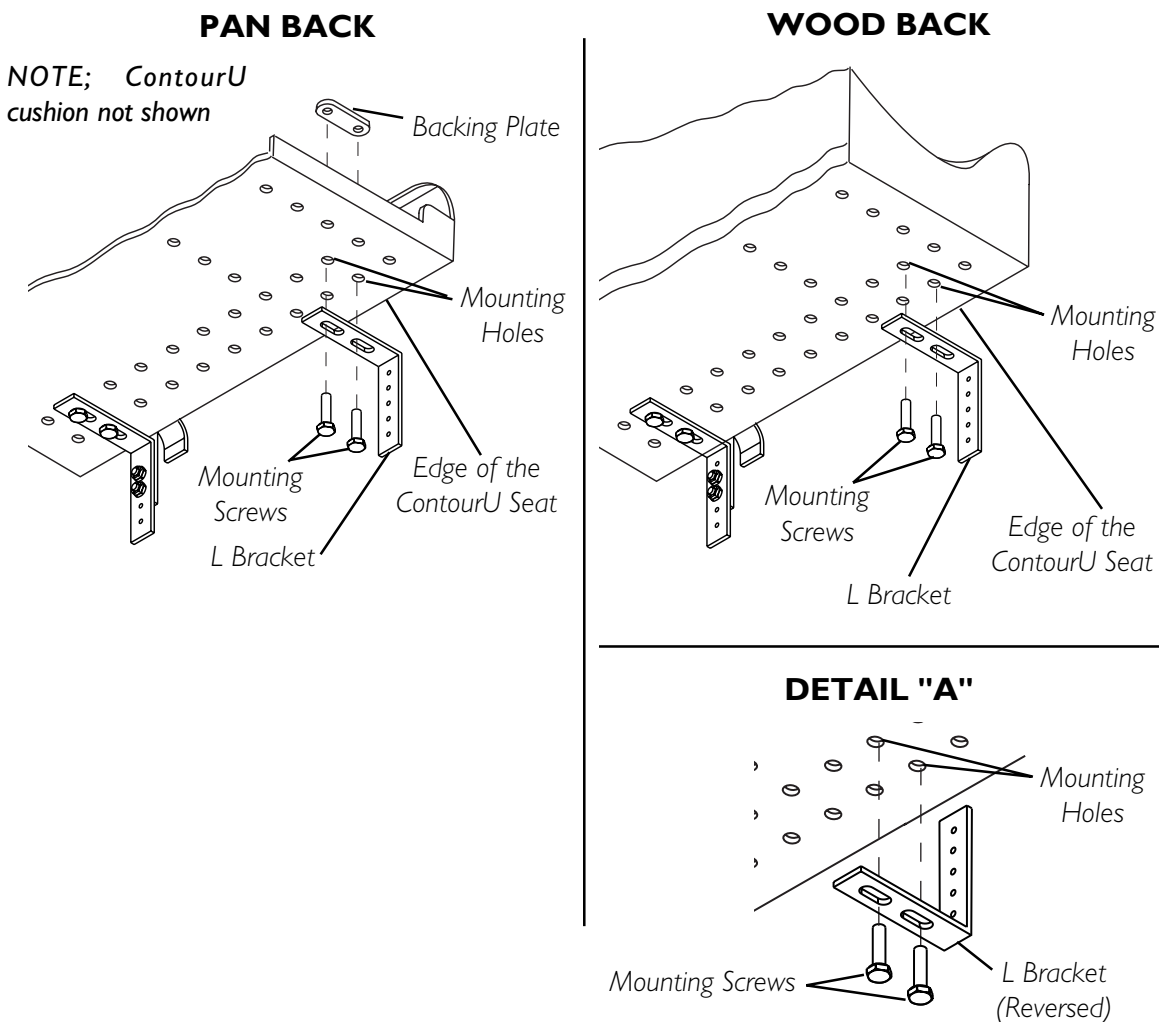

FIGURE 8 - INSTALLING THE SEAT L BRACKETS
INSTALLING THE SEAT L BRACKETS (FIGURE 8)
NOTE: When mounting the L brackets to the wood backed ContourU seat the L brackets may be reversed to allow for a wider range of seat height adjustments and shown in DETAIL "A" of FIGURE 8.
1. Position the ContourU seat between the seat rails and determine the mounting positions for the four (4) L brackets and seat depth.
3. Align L bracket with the edge of the ContourU seat and two (2) desired mounting holes as shown in FIGURE 8.
4. Perform one (1) of the following:
- A. SEAT PAN: Using a backing plate and two (2) mounting screws, secure the L bracket to the seat pan back.
- B. WOOD BACKED SEAT: Using two (2) mounting screws secure the L bracket to the wood backing of the seat cushion.
5. Repeat steps 3-4 for remaining three (3) L brackets.